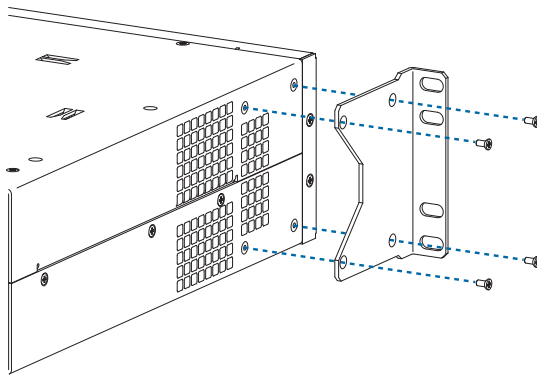

FIG. 10 Attach rack ears to sides of enclosure
1. Attach the rack ears per FIG. 10 (ears provided).